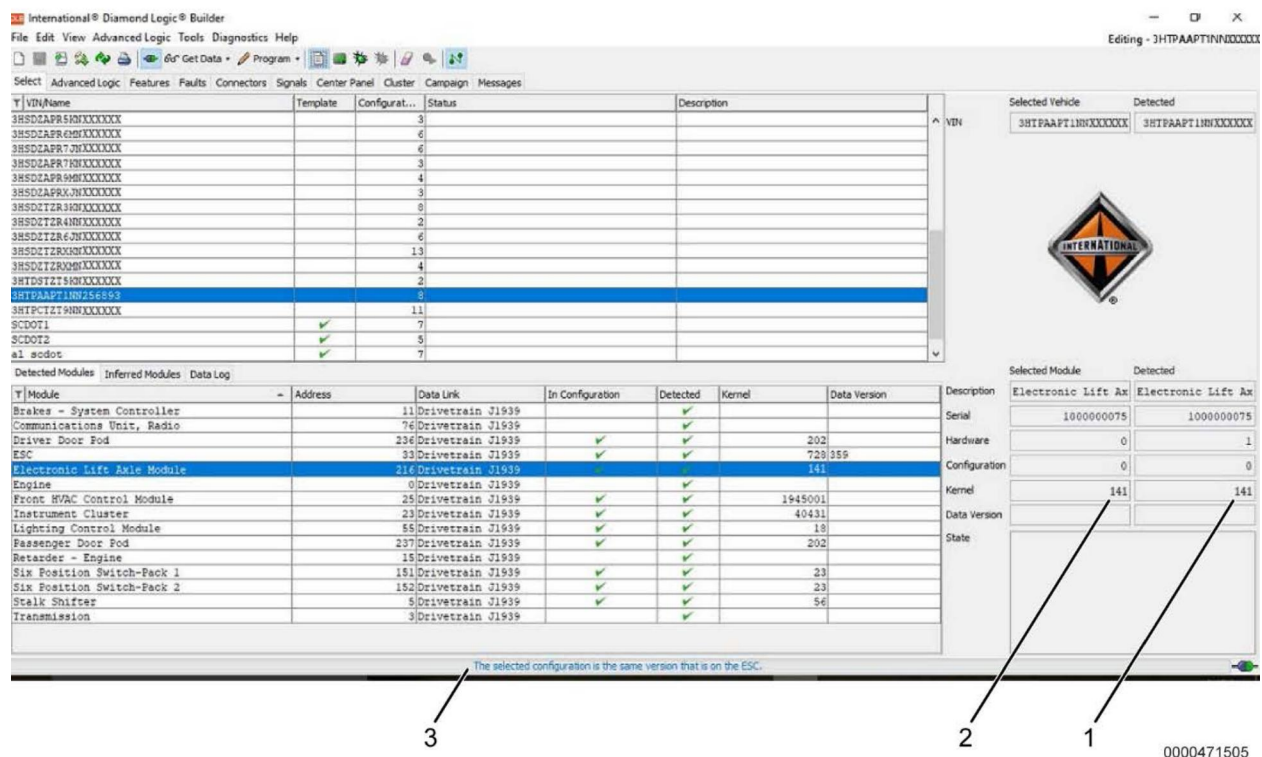

Figure 2. Programming Complete
11. Click **PROGRAM** button in toolbar to begin updates. DLB will indicate programming status in status bar (Figure 2, Item 3) located at bottom of window.
NOTE: When update has been completed for selected module, kernel version listed in Selected Module column (Figure 2, Item 2) will match version listed in Detected column (Figure 2, Item 1). Also, status bar (Figure 2, Item 3) will display message: The selected configuration is the same that is on the ESC.